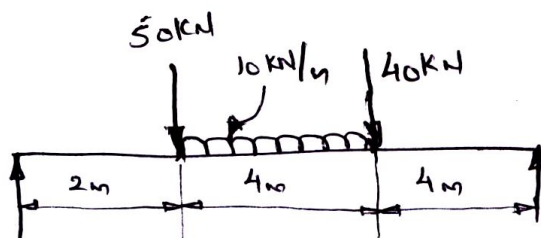

Fig.Q6(b)
- b. Draw the shear force and bending moment diagram for the beam shown in Fig.Q6(b). Also calculate the maximum bending moment.